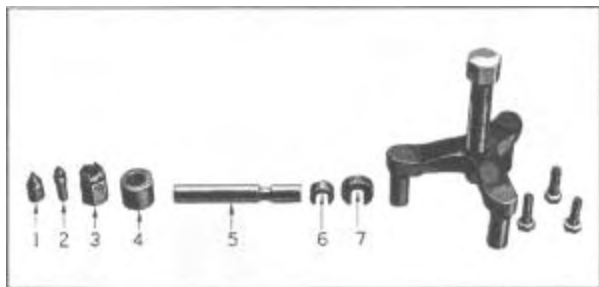

Figure 505—J-694 Water Pump Reconditioning Set
Water pump reconditioning tool set No. J-694 is shown in Figure 505. This set provides an easy means of disassembling and reassembling the water pump without damage to parts and insures proper alignment of bearings after rebuilding.
5. Insert the pilot (2 Figure 505) in the cutter 3 and assemble on end of screw. Tighten screw so that pilot enters center of pump shaft and teeth of cutter come against shaft.